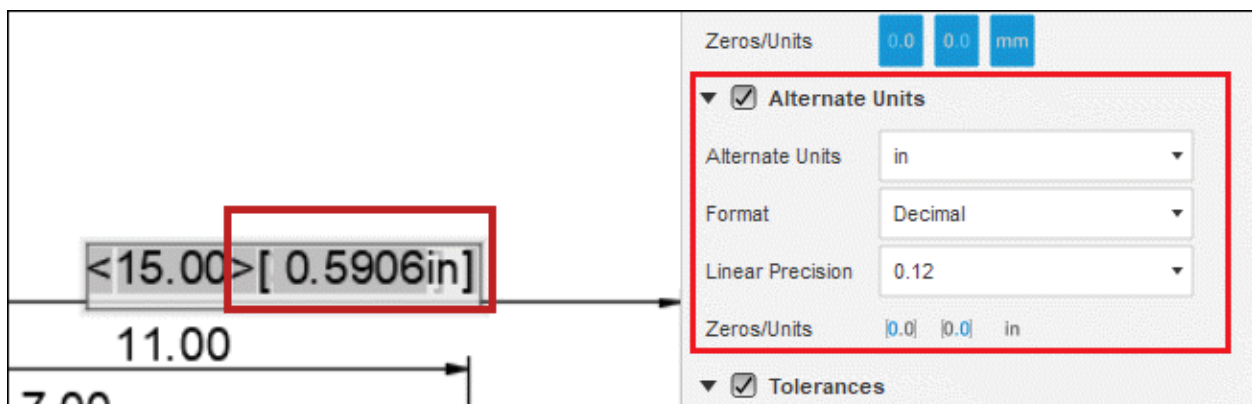

Figure-82. Alternate units
- Select the **Alternate Units** check box to also display dimensions in inches if they are in mm and vice-versa; refer to Figure-82.